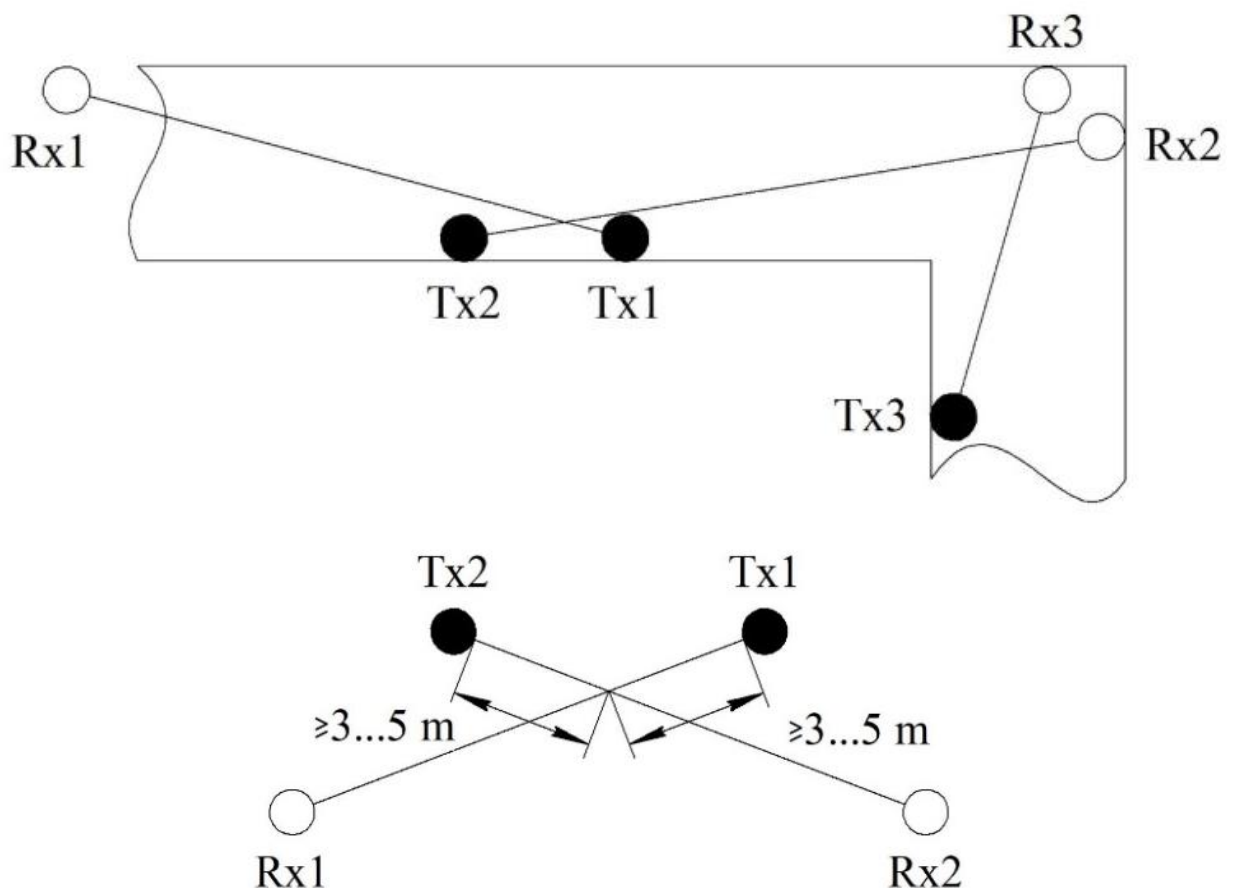

Figure 2.1 – Example of perimeter marking for sensors installation
2.3.2.2.1 Overlap the detection zones of the adjacent sectors (see Figure 2.1) for continuous long protection boundary. Overlapping is necessary to avoid crossing the detection zone under or above Tx unit (Rx unit) close to the pole.